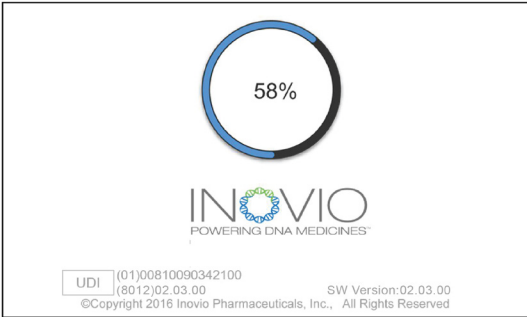
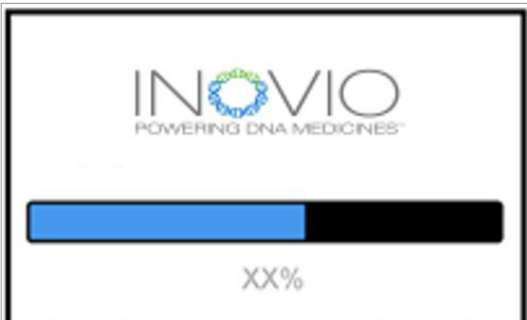

Figure 12 Self-Test Screen
Figure 13 Start Up Screen
5. On power up, device will initiate a Self-Test and the **Start Up** screen will be displayed on the Base Station and Handset (see Figure 12 and Figure 13).